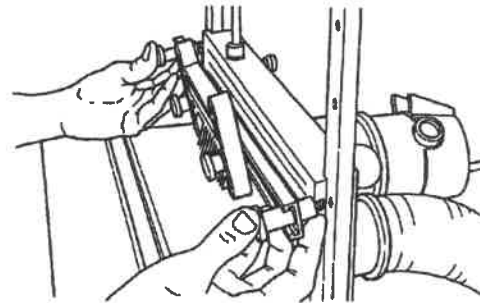

Fig. A-38
4. Attach the feather board kit to the Joint-Matic guide bars by screwing in both knobs into holes located in front of the slide guides, shown in Fig. A-38.